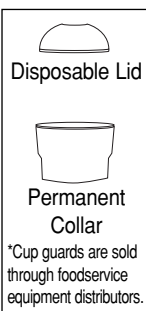
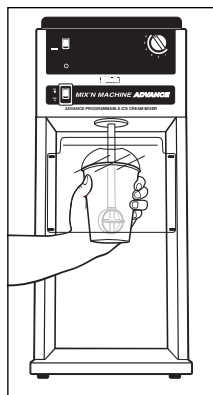

Figure 1
Figure 2
4. Place a cup guard on the cup (See Figure 1). Hold the cup (and lid or collar) securely in your hand (**from the side, not from the bottom**) and reach under the splash guard. Move the cup under the agitator and lift up so the agitator touches the bottom of the cup. See Figure 2.